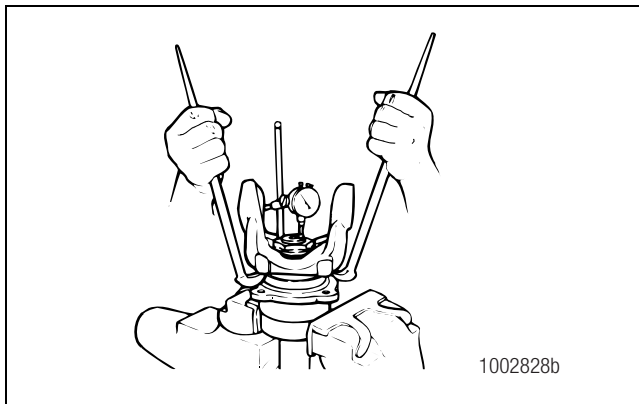

Figure 5.92
5. Install a dial indicator so that the base of the indicator is on the mounting flange of the cage. The pointer of the indicator must touch the yoke or flange end of the thru-shaft. Set the dial indicator to ZERO. Figure 5.92.